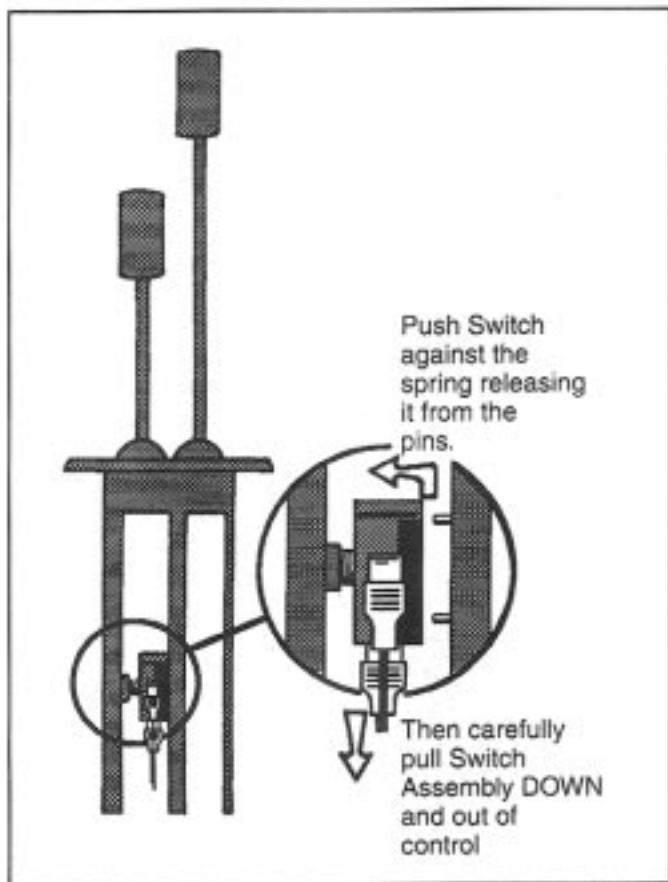

FIGURE 11
2. Push the switch toward the retainer spring while pulling the switch off the retaining pins on the support. See Figure 11. Slide the switch out. Be careful not to lose the spring when the switch is removed.
switch onto the retaining pins. Ensure that the terminals on the switch face **AWAY** from the hand levers as shown in Figure 11. Remove the screwdriver used to retain the spring.
Periodically lubricate all moving parts with a good quality marine grease. Refer to Figure 11 for lubrication points and lubricate as follows: